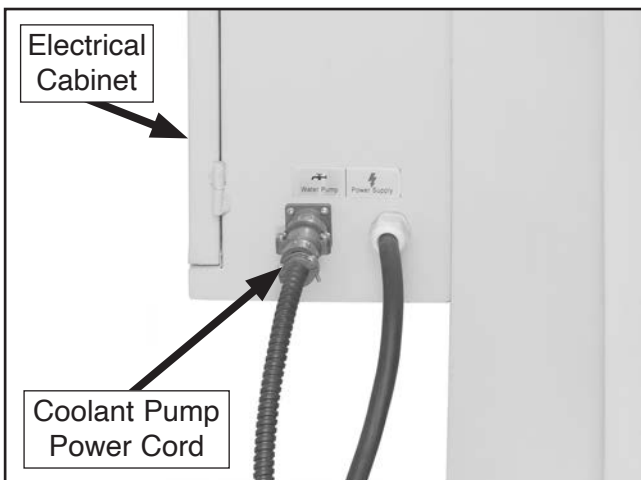

Figure 22. Coolant pump electrical connection with electrical cabinet.
4. Disconnect coolant pump power cord from electrical cabinet (see **Figure 22**).